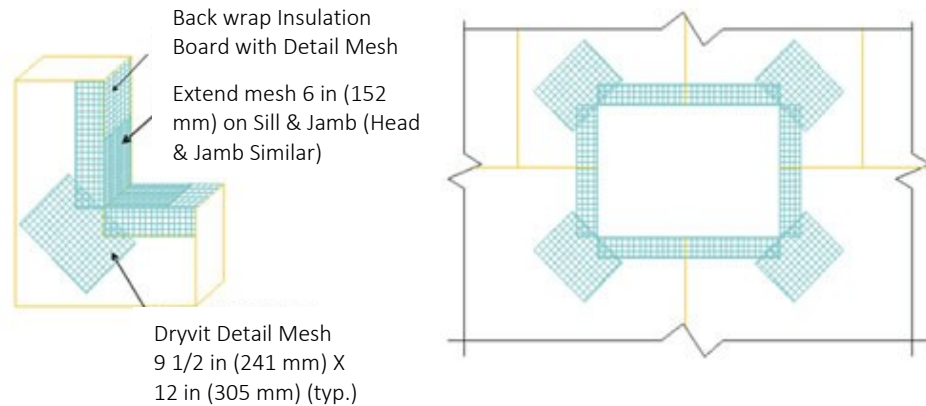

Fig. 12
18. Corners of all openings such as windows, doors, mechanical equipment and all penetrations shall be reinforced with Detail Mesh placed diagonally to the opening as illustrated in Figure 12.